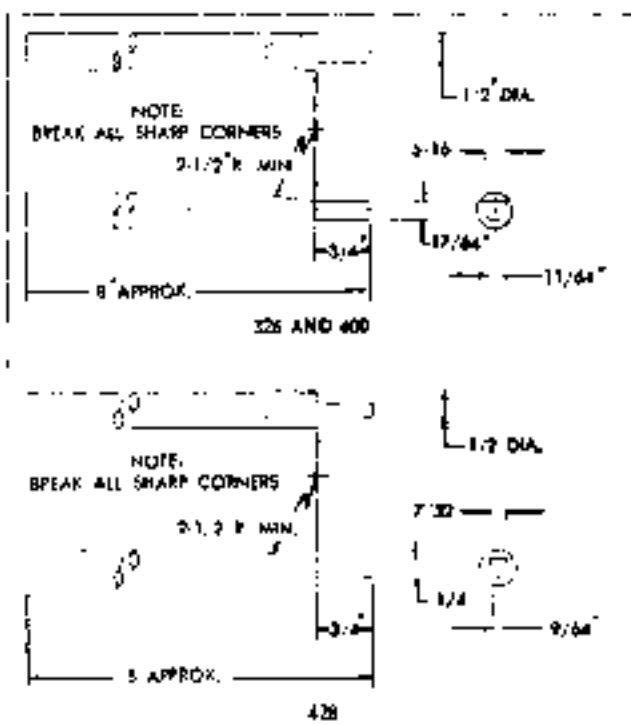

Fig. 6-105 Rear Main Sealing Seal Tool
4. Use tool shown in Fig. 6-105 made from brake bar stuck to pack upper seal as follows: